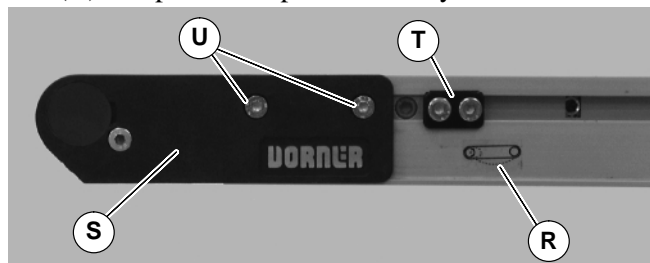

Figure 17
4. Remove tension door screws (AM) on each side of the drive module.
5. Using finger grip holes (AN), open the tension door (AO) to release conveyor belt tension.
6. On tension end of the conveyor, identified with a  label (R of Figure 17), push in head plate assembly (S): On both sides of conveyor, loosen and move cam tracking assemblies (T) (if equipped) away from head plates, then loosen fastening screws (U) and push head plate assembly inward.